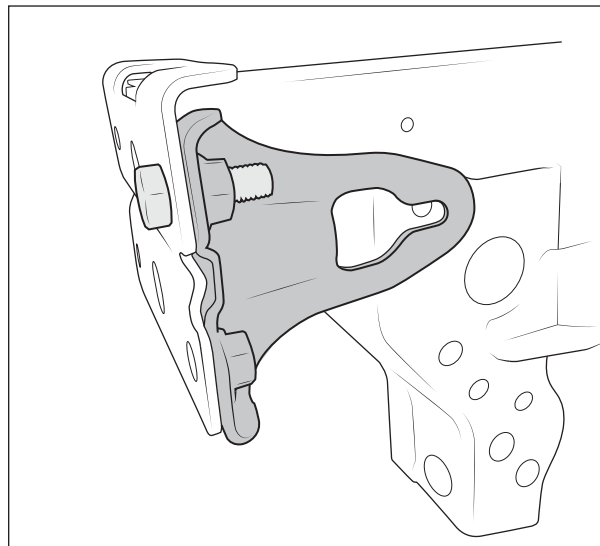

Figure 9
2. Reinstall factory tow hook support brackets to inside of frame rails. Bolt to front frame flange using one M12x35mm bolt and washer from the front and flange nut on the rear. Hardware only needs to be snug to hold bracket in position, it will be removed later (fig. 9).